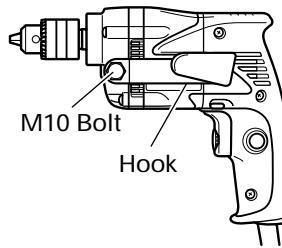

Fig. 7
**For hook (A) (top-attaching) (Fig. 7)**